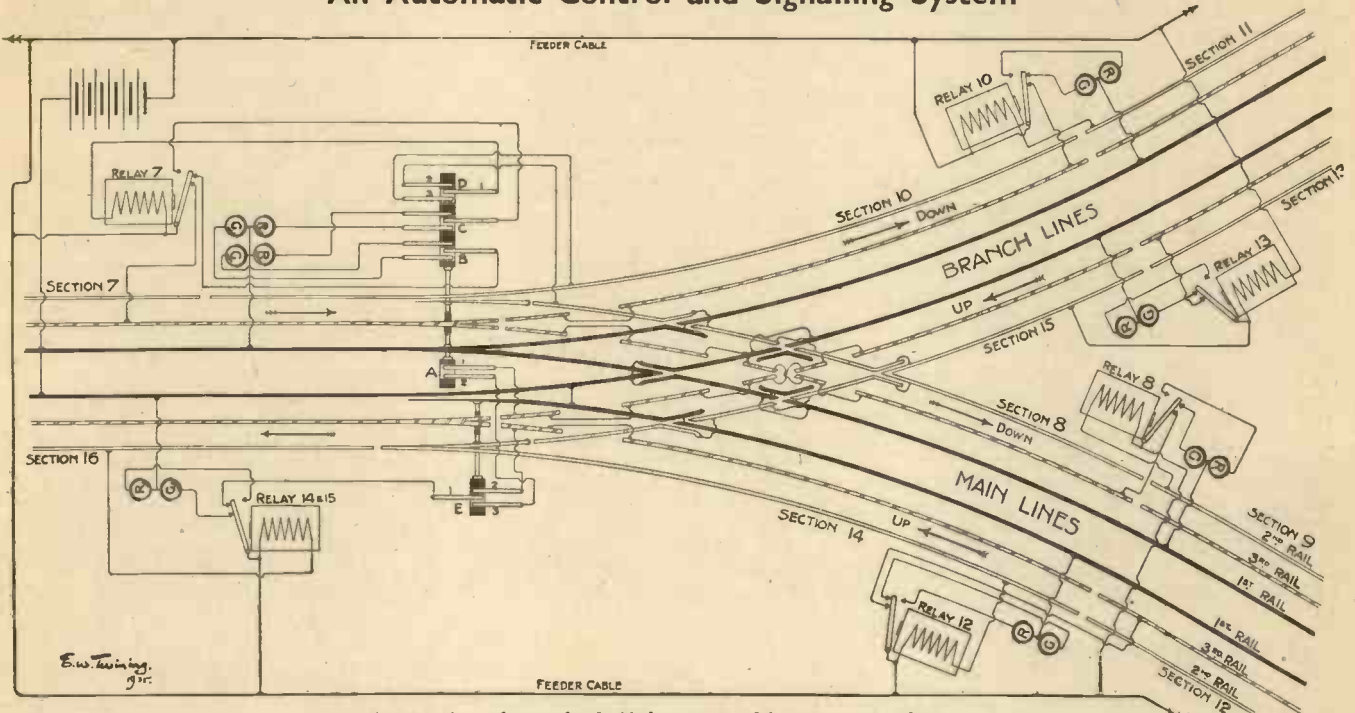

Fig. 4.—A set of points for double lines arranged for automatic working.
The lay-out of a double set of points to main and branch lines is shown in Fig. 4. In this is included the relays controlling the block sections on either side of the points, with the additional contacts on the point rods already referred to.
(2) An UP BRANCH train will stop an UP MAIN train or (3) vice versa, through the medium of switch leaves E, according to the position in which the points are set. If the points are as shown in Fig. 4 the current path is broken to the third rail of section 14, and flows to section 15. If trains enter sections 14 and 15 simultaneously, one of them will be stopped according to the point setting. It is possible, therefore, by setting points early,
(4) In order to render this impossible, the point tongues of the second rails must be interrupted or insulated. It will be seen from the diagram that if they were not insulated, when a DOWN BRANCH train was stopped in section 10, or for some reason had not cleared the section, and a following train wished to pass to the DOWN MAIN—section 8—it could not proceed even when the points were set over for it, because the point tongue would put the second rail of section 10 in connection with that of section 8 and the switch leaf D² would be inoperative. Consequently, the third rails of sections 7 and 8 would remain dead through relay 7 remaining energised. With an insulated point tongue, even if a train is in section 10, the opening of the points to the DOWN MAIN line changes over switch tongues D1-3 to D1-2, which causes relay 7 to open and restore current to both the third rails.
(5) Here again the insulated point tongue leading to sections 8 and 10 is utilised to prevent this occurring. If the tongue was not insulated and the points were put over to the opposite position to that shown in Fig. 4, immediately after the passage of a DOWN BRANCH train an UP BRANCH train, on entering section 13, would be stopped because relay No. 13 would be actuated in just the same way as it would if section 15 were occupied.
(6) The automatic starting and stopping of the UP trains in sections 15 and 14 is controlled by switch leaves E according to the state of the tongue of the points.
The point tongues are moved by solenoids—coils having sliding cores—a pair of them being inter-connected mechanically. The whole arrangement is shown in Fig. 5, including the electrical switches shown in Fig. 4. It should be made clear that the number of switch springs or leaves here shown are those required for the down
facing points, A, B, C and D, shown in Fig. 4. For the UP trailing points only the three leaf contacts at E, Fig. 4, will have to be fitted. The automatic locking of the tongues, after being moved, is provided for by the form of the ends of the slot in the plate connecting the cores. These slot-ends being parallel with the direction of motion securely hold the lever which actuates the point rod. Each coil of the solenoids should be wound with 4 oz. No. 22 or No. 24 enamelled wire on brass bobbins and housed in casings of soft iron plate, as shown. The base plate and brackets may be of either brass or aluminium.